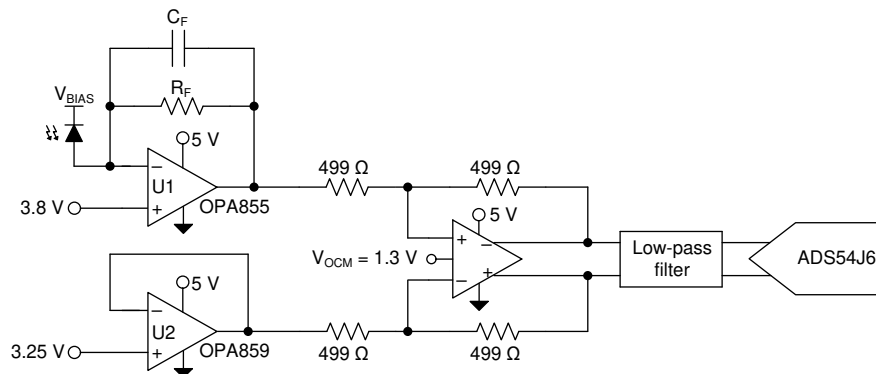
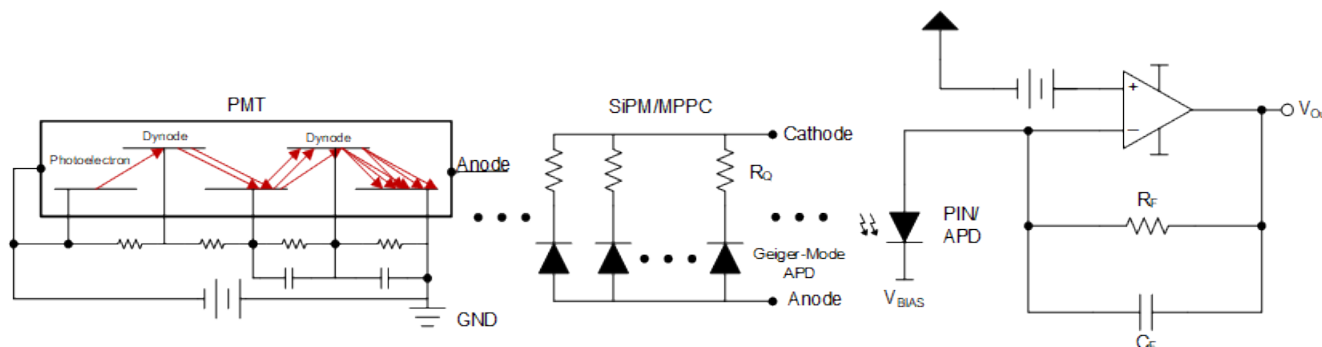

Figure 10-1. OPA855 as a TIA in an Optical Front-End System
Figure 10-5. Transimpedance Amplifier with APD or SiPM/MPPC or PMT Inputs
Figure 10-1 shows the OPA855 configured as a transimpedance amplifier (U1) in a wide-bandwidth, optical front-end system. A second amplifier, the OPA859-Q1, configured as a unity-gain buffer (U2) sets a dc offset voltage to the THS4520. The THS4520 is used to convert the single-ended transimpedance output of the OPA855 into a differential output signal. The THS4520 drives the input of the ADS54J64, 14-bit, 1-GSPS analog-to-digital converter (ADC) that digitizes the analog signal.
Figure 10-1 shows the OPA855 configured as a TIA, with the avalanche photodiode (APD) reverse biased so that the APD cathode is tied to a large positive bias voltage. In this configuration, the APD sources current into the op amp feedback loop so that the output swings in a negative direction relative to the input common-mode voltage. To maximize the output swing in the negative direction, the OPA855 common-mode voltage is set close to the positive limit; only 1.2 V from the positive supply rail. The feedback resistance (R_F) and the input capacitance (C_{IN}) form a zero in the noise gain that results in instability if left unchecked. To counteract the effect of the zero, a pole is inserted into the noise gain transfer function by adding the feedback capacitor (C_F).
OPA855 offers 8 GHz of gain bandwidth, high slew-rate, and low noise which makes this device suitable for a wide range of photodetectors. Figure 10-5 shows the OPA855 configured as a transimpedance amplifier (TIA) in a wide-bandwidth, optical front-end system. Various types of optical sensors can be used as an optical input to the amplifier: photodiode (PD), avalanche photodiode (APD), Photomultiplier Tube (PMT), and Multi-Pixel Photon Counter (MPPC) or known as Solid-State Photomultiplier (SiPM). Optical detection applications have commonly used APDs, but ultra-low light source detection has been a challenge in past solutions. With technologies such as PMTs and MPPCs, their high intrinsic gain, while maintaining a fast output, requires a low noise, high-speed interface. The OPA855 can accommodate for these optical challenges and would work equally as well in these applications.
Figure 10-5 shows the OPA855 configured as a TIA, with the optical sensor reverse biased so that the diode cathode is tied to the positive bias voltage. A RC filter can be used at the reverse bias node as a low pass filter to eliminate high frequency noise. The internal capacitance of photodetectors will vary based on sensor type and the value of the applied reverse voltage. The setups between each sensor type will slightly differ, but the connection to the amplifier will be consistent throughout.
The DC voltage bias at the non-inverting input of the OPA855 shown in Figure 10-5 will set the common-mode voltage which will maximize the output swing of the system in mismatched power supply configurations. The DC bias is critical to avoid clipping or saturating the output stage of the amplifier. For the later stages, a fully differential amplifier (FDA) can be used to convert single-ended signal to a differential input to drive an analog-to-digital converter (ADC) as shown in Figure 10-1. Higher order filters can be added between the FDA and ADC for system noise reduction.